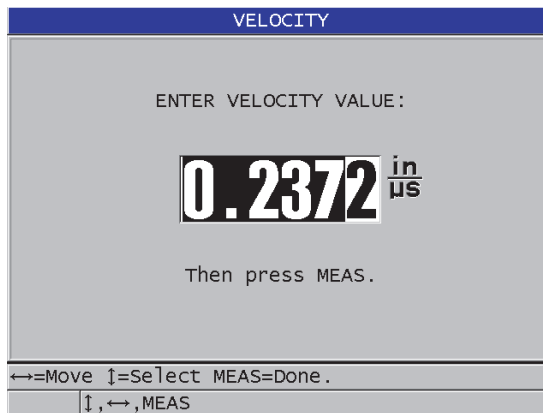

Figure 5-7 Entering a known material sound velocity
2. In the **VELOCITY** screen (see Figure 5-7 on page 88), use the arrow keys to edit the velocity to the known value.